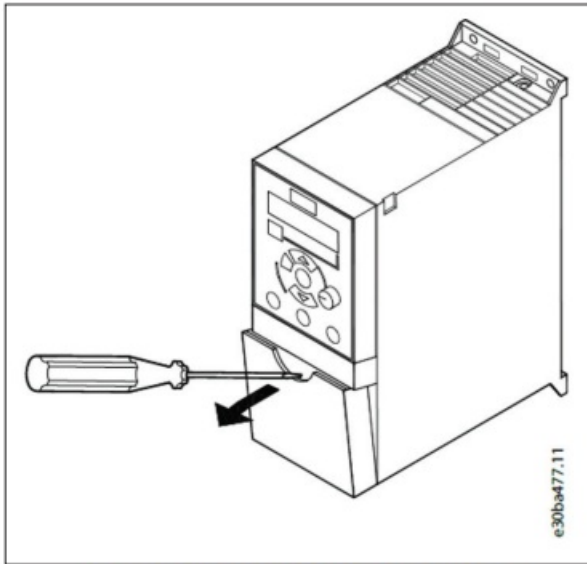

Figure 13: Remove VFD terminal cover
5. Remove the VFD terminal cover. See Figure 13.